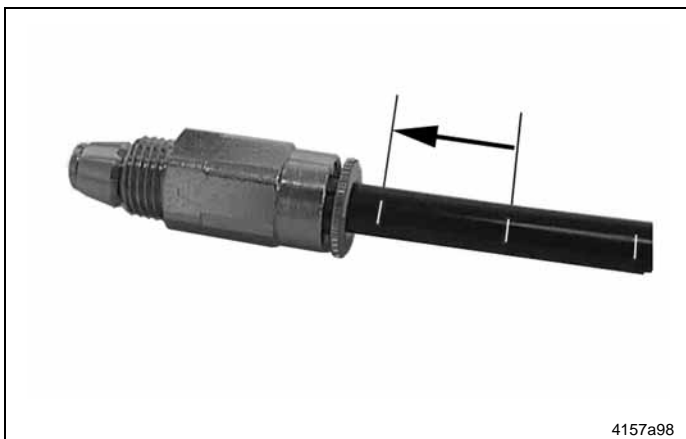

Fig. 9 Feed line insert into the fitting up to the next white mark
*Push the ends of the feed lines firmly into the Quicklinc fittings until they are fully seated in the body of the fitting. The primed feed lines are marked with white lines (fig. 9) to facilitate installation.*